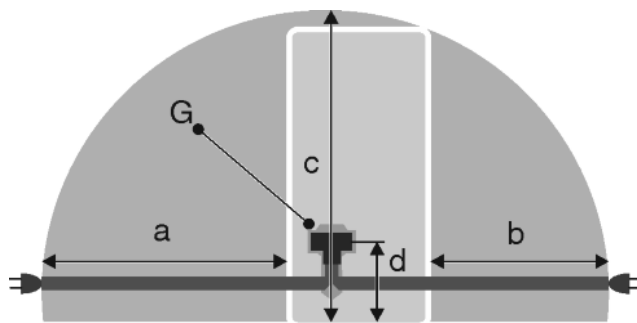

Fig. 21
- The socket is outside the back of the appliance area in the specified area *Fig. 21 (a, b, c)*.
- Insert the appliance plug *Fig. 21 (G)* into the back of the appliance. Ensure that it clicks into place.